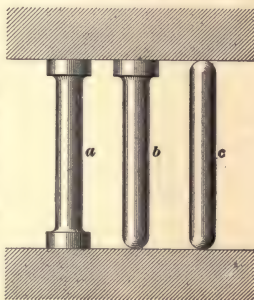

FIG. 5.
34. The shape of the *ends* of a column has great influence on its strength. In Fig. 5 are shown three columns with differently shaped ends.